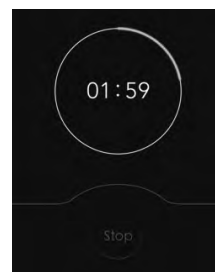

Fig. 12
-  • When the timer reaches 00:00, the fireplace will automatically turn off. To stop the timer, press "Stop". (Fig. 12)